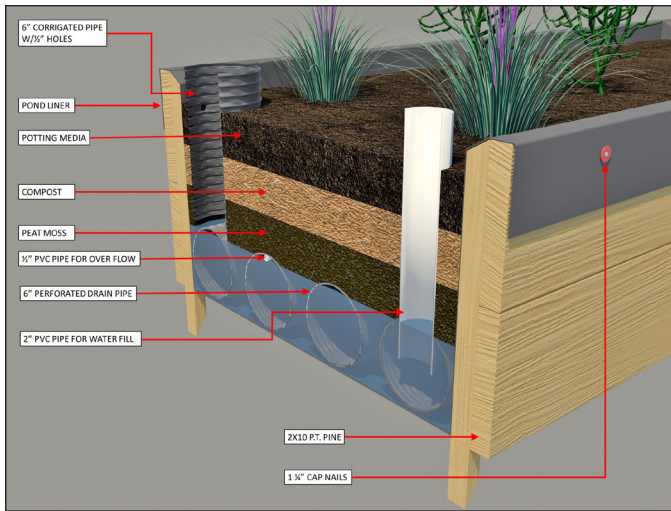

Figure 1. Cross-section of a wicking bed garden. James Ash.
- The water reservoir (Figure 1) can detain and capture water from rainfall events and reduce nutrient loss.
The components needed to construct a raised wicking bed (Figures 1 and 2) are:
Overflow tube: An overflow or drain tube can be fabricated from a .5-inch vinyl tube or PVC pipe (Figures 1, 5, and 6). This tube provides a route for excess water to flow and prevent the planting media from becoming saturated.